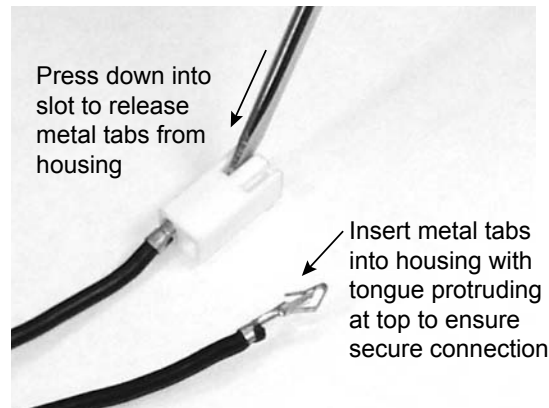

Figure 24.
6. Press a small screwdriver into the slots on the plastic female connector housing to remove the two metal slip-in tabs on the 24V power cord. See Figure 24.
9. Use a small screwdriver to raise the tongue on each metal tab so it is protruding at the top. Reinstall the tabs in the housing. Tug lightly on the cord to make sure the tab does not pull free from the housing. See Figure 24.